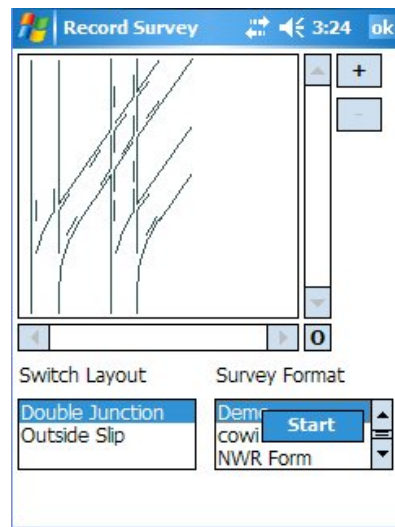

Figure 3
2. Choose the type of Switch Layout to be recorded from the left-hand box then in the right hand box 'Tap & Hold' on the desired survey format, a 'Start' box will appear as shown in *Figure 3*. Tap 'Start' to continue